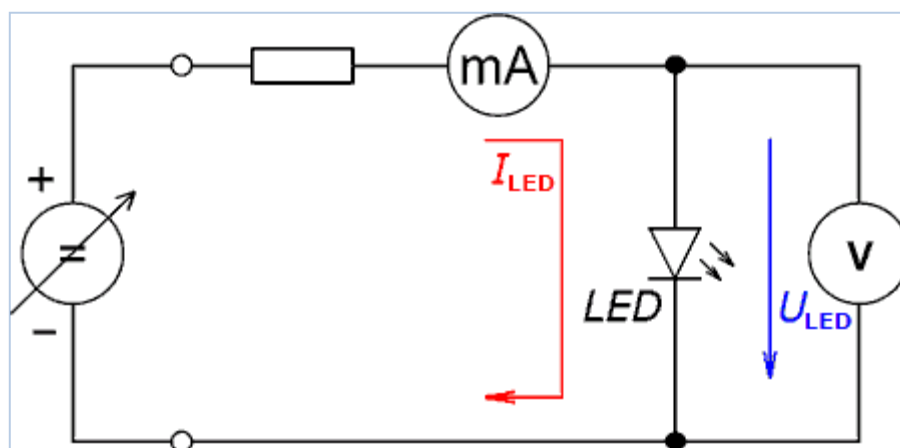

Figure 1: Circuit diagram of Planck's constant set up
1. Make the connection in the kit as shown in the figure 1.